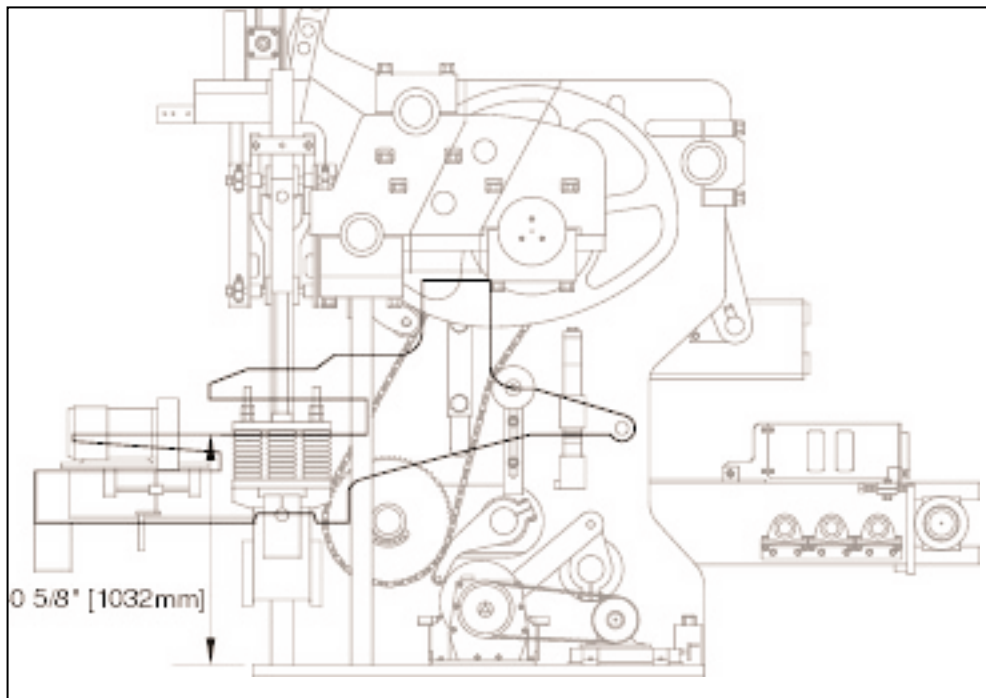

Figure 4.21 INNER FRAME ADJUSTMENT.
4.2.3 Adjust the inner frame so that the mold throat is **40 5/8" [1032mm]** above the top on the base plate (figure 4.21). **2 1/4" [57mm]** of spacers are required. To do so, follow these procedures.